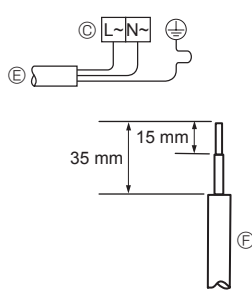
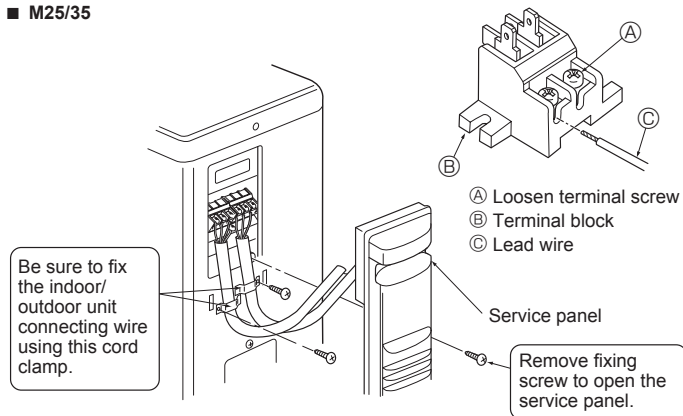
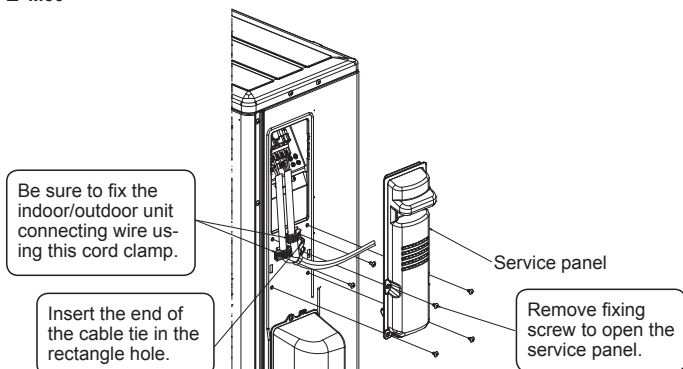

Fig. 6-2
Fig. 6-3
Fig. 6-4
6.1. Outdoor unit (Fig. 6-1, Fig. 6-2, Fig. 6-3, Fig. 6-4)
- ① Remove the service panel.
- ② Wire the cables referring to the Fig. 6-1, Fig. 6-2, Fig. 6-3 and the Fig. 6-4.
- Perform wiring as shown in the diagram to the lower left. (Procure the cable locally) (Fig. 6-2)